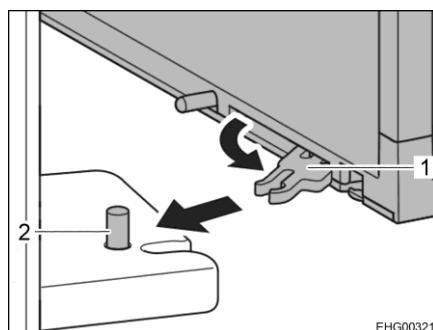

Fig. 83 Refrigerator door locking mechanism
■ On the inner side of the refrigerator door, fold out and pull forward the spacer (Fig. 83,1) at the top and the bottom.
■ Let the spacers snap in at the appropriate pin (Fig. 83,2).